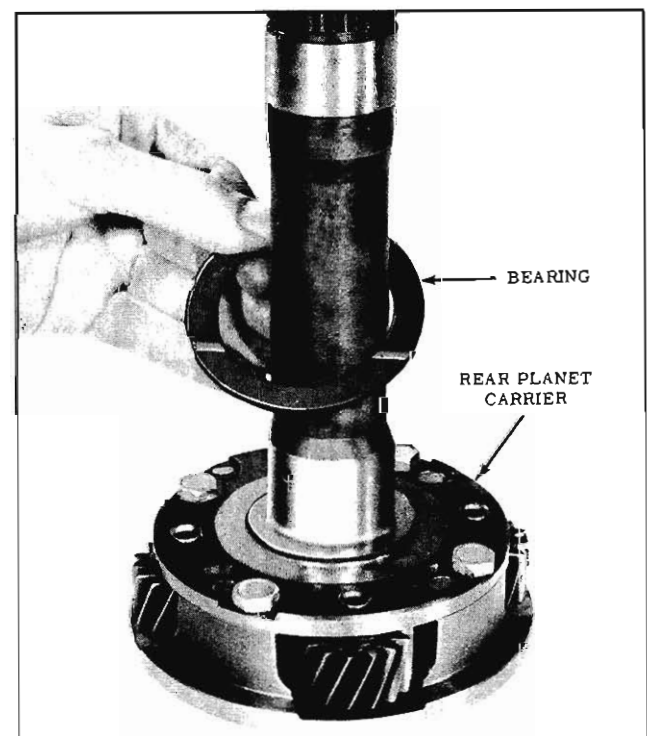

Fig. 6-96 Thrust Bearing
17. Install bearing on rear planet carrier. Retain with petrolatum. (Fig. 6-96)